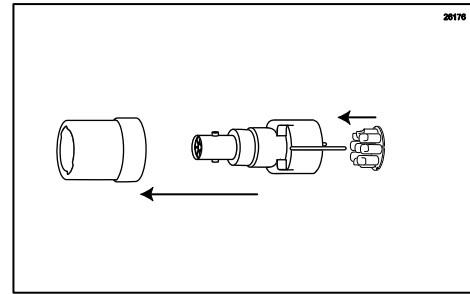

Figure 73
26. Install the Duckbill Check Valve into the Syrup Line Manifold and the Syrup Line Manifold into the Coupler Body. (See Figure 73.)